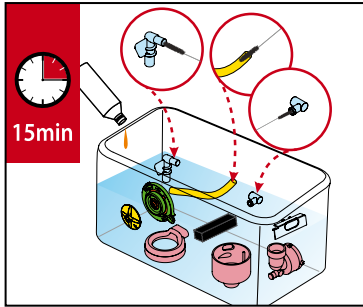

Fig.13
1. Place all the mixing system parts in a bin with a locally approved food grade cleaning agent and hot water and soak for approximately 15 minutes. (See Fig.13)